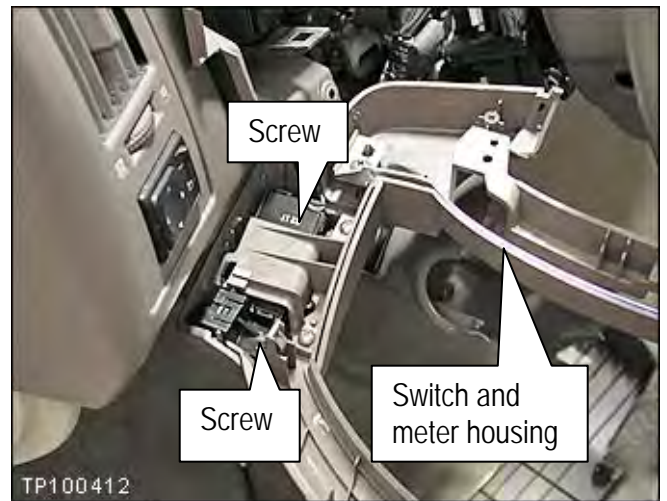

Figure 9
d. Remove the 2 screws shown in Figure 9.